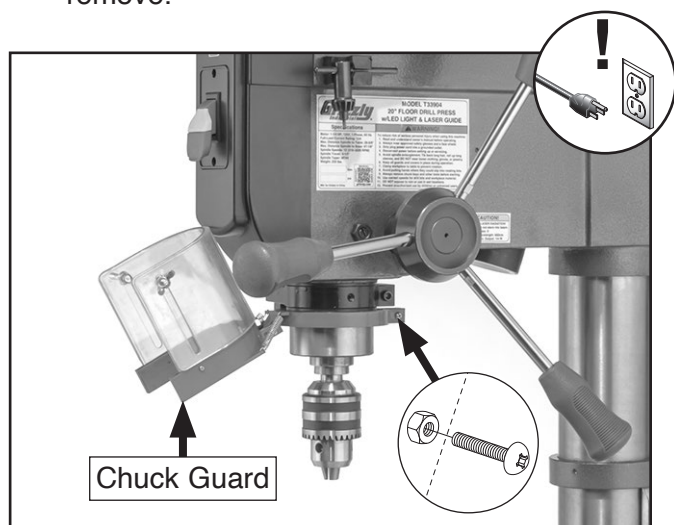

Figure 26. Location of chuck guard fasteners.
2. Loosen screw and hex nut shown in **Figure 26** to slide chuck guard off of quill and remove.